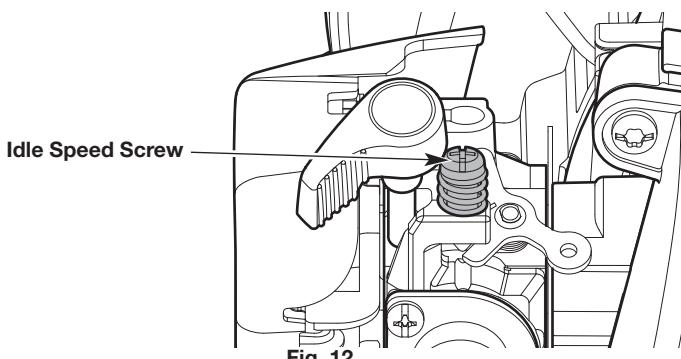

Fig. 12
- If the engine stops, increase the idle speed. Use a small Phillips screwdriver to turn the idle speed screw clockwise, 1/8 of a turn at a time, until the engine idles smoothly (Fig. 12).